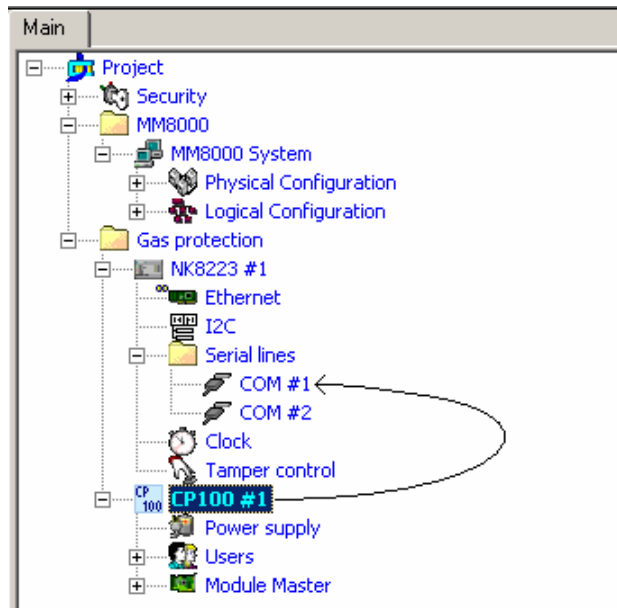

Fig. 14 Link CP100 to the NK8000 network
3. Drag and drop the CP100 node to the network COM port (see Fig. 14).